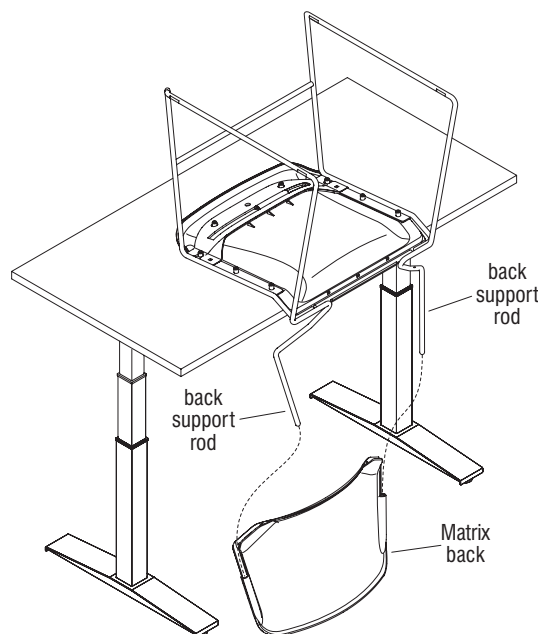

Figure 2
3. Once screws are removed, pull the Matrix back free from the back support rods (Figure 2).